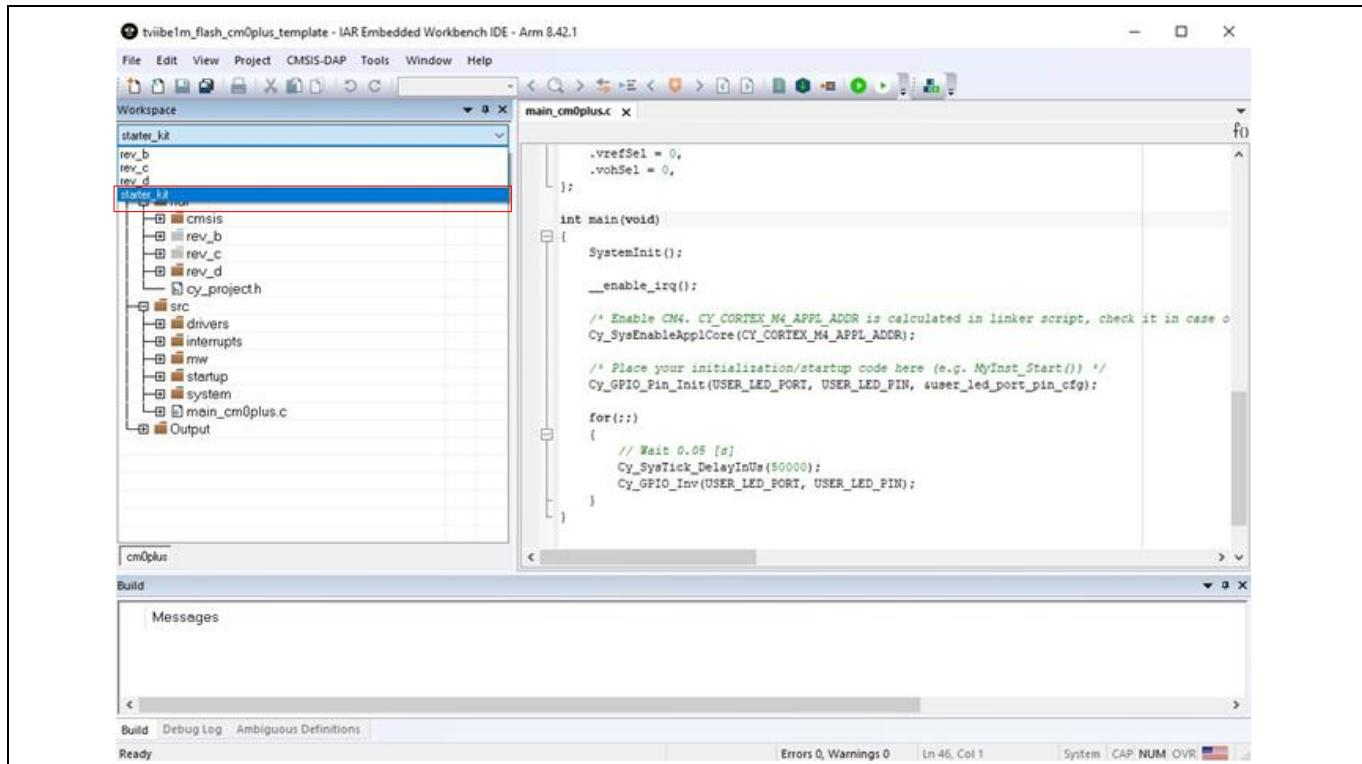

Figure 7 Selecting workspace revision
2. Select the workspace revision **starter_kit** from drop-down list under **Workspace**, as shown in Figure 7.